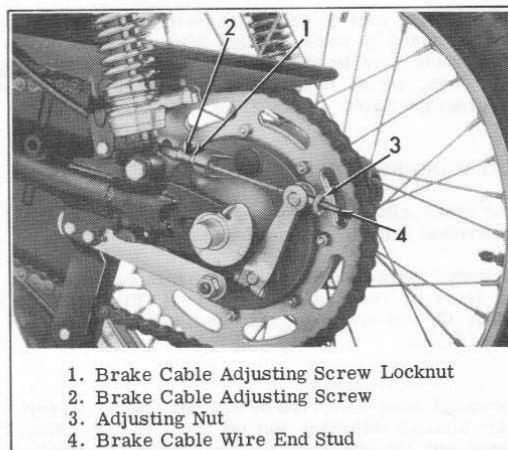

Figure 2.31. Rear Brake Adjustment
Refer to Figure 2.31 while performing following adjustment.
The rear wheel brake adjustment is made by means of a knurled nut (3), Figure 2.31, which may be adjusted to compensate for brake lining wear. Set brake cable adjusting nut so brake does not start to take effect until foot pedal is pushed downward about 1/2 inch (12.7 mm). Turn nut on to tighten brake and back off to loosen brake. After brake is adjusted, turn wheel to see that it rotates freely to be sure brake is not too tight and dragging. Major adjustment can be made with brake cable adjusting nut and screw (1) and (2).